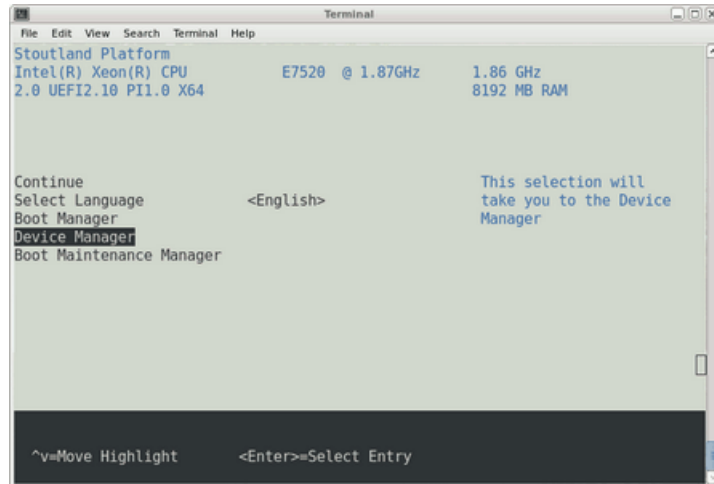
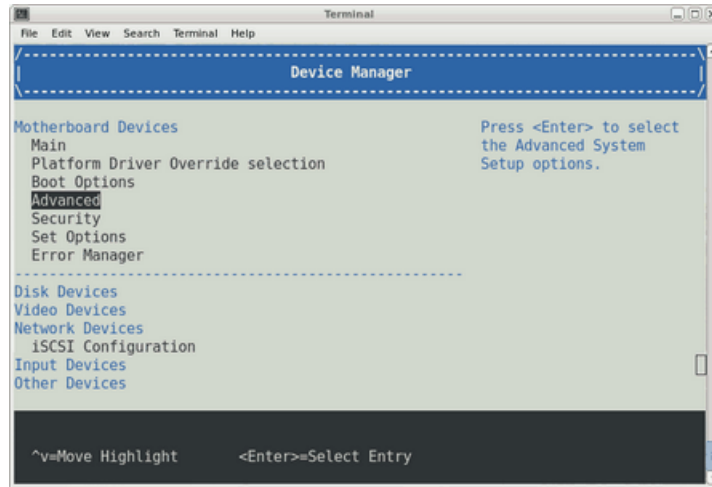
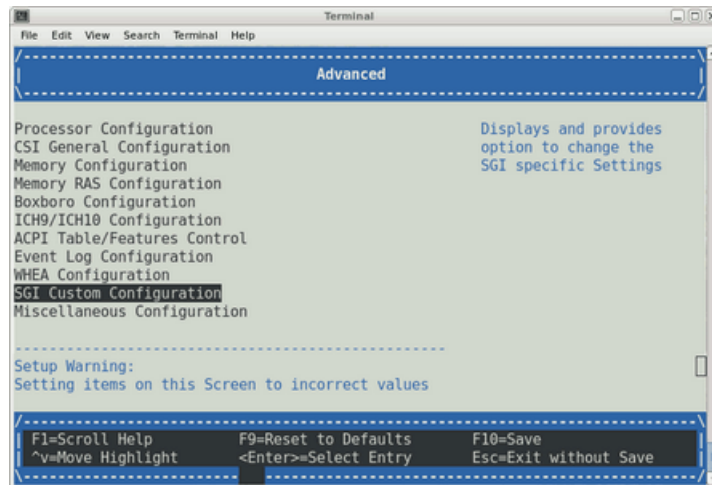

Figure 1-5 Device Manager Screen
Figure 1-6 Device Manager Advanced Option Screen
Figure 1-7 SGI Custom Configuration Option Example
From the boot manager screen, select **Device Manager**, as shown in Figure 1-5 on page 7.
9. From the **Device Manager** screen, as shown in Figure 1-6 on page 8, select **Advanced**.
10. From the **Advanced** screen, select **SGI Custom Configuration**, as shown in Figure 1-7 on page 8.
- Select **Device Manager** (see Figure 1-5 on page 7), **Advanced** (see Figure 1-6 on page 8), **SBI Custom Configuration** (see Figure 1-7 on page 8).